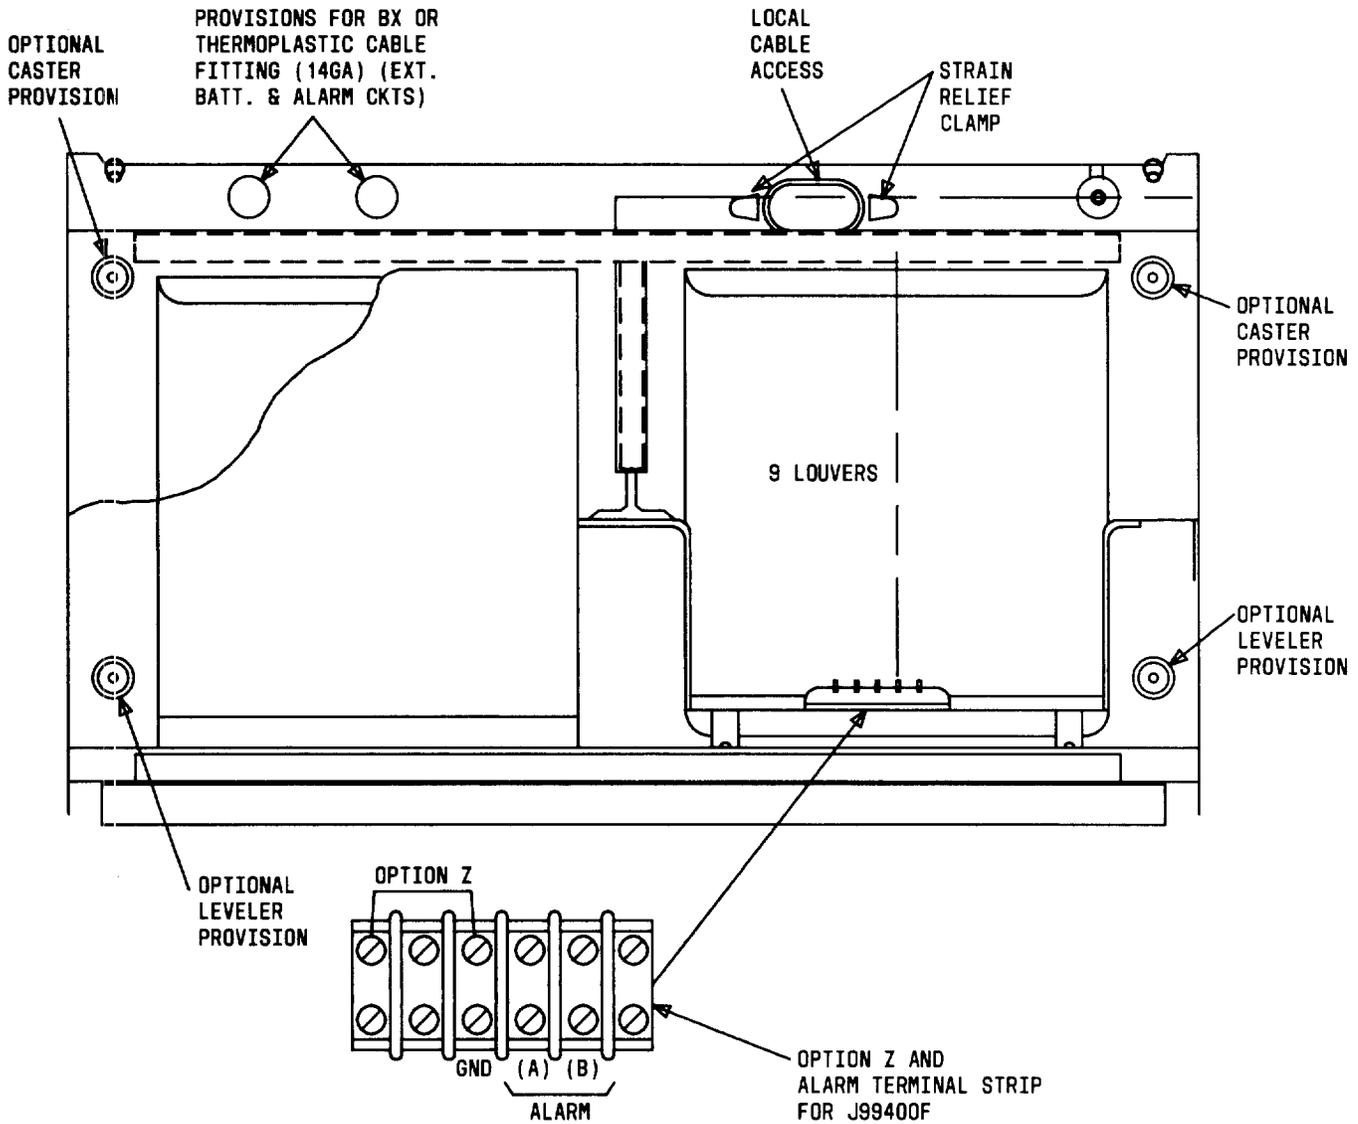

Fig. 2—Bottom View of J99400F Showing Cable Access Holes and TB5
2.07 In the event of the loss of the 117 Vac input or the tripping of the ac input circuit breaker, the 292A will transfer to an internal -48 volt battery and disconnect the battery charger. There is also a provision for an optional alarm circuit. One of the two access holes located at the battery rear, left-hand side of the housing is used for connection to the alarm circuit. The access holes are shown in Fig. 2. The cabling for this function is to be 14-gauge BX or thermoplastic cable. This cable connects to the terminal strip (TB5) as marked. The terminal strip is shown in Fig. 2.
3.03 Cabling to the J99400F housing is made to the 94-type connectors (TS1 through TS4) through the oblong opening at the right rear of the housing as shown in Fig. 2. Typically, cabling from the network interface is routed to the connectors labeled TS1 and TS2 (A-side) and connected according to circuit and function as indicated on the decals beside the connectors and on the inside of the front panel. The cabling to the central office is typically connected to connectors TS3 and TS4 (B-side). Figure 5 shows the lead plan for the 94-type connector block. The 94-type connector can accommodate wire sizes of 22, 24, and 26 gauge.